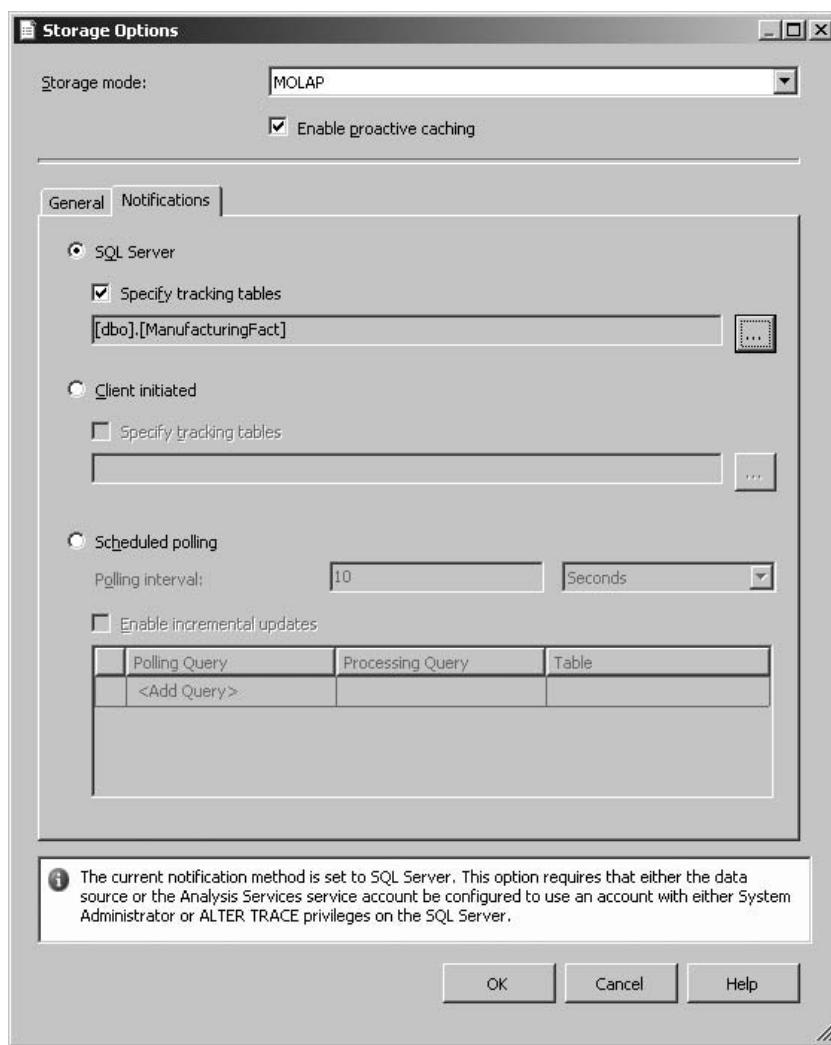

Figure 10-35 The Notifications tab of the Storage Options dialog box
13. Click OK to exit the Relational Objects dialog box. The Notifications tab of the Storage Options dialog box should appear as shown in Figure 10-35.